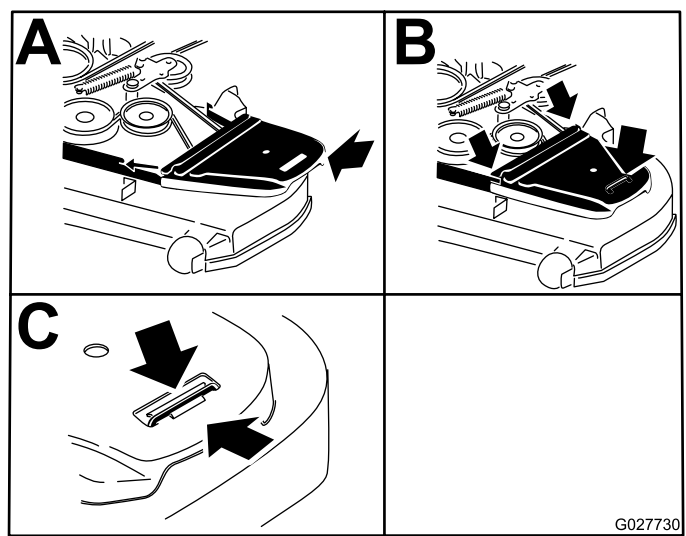

Figure 80
12. Install the belt covers (Figure 80).